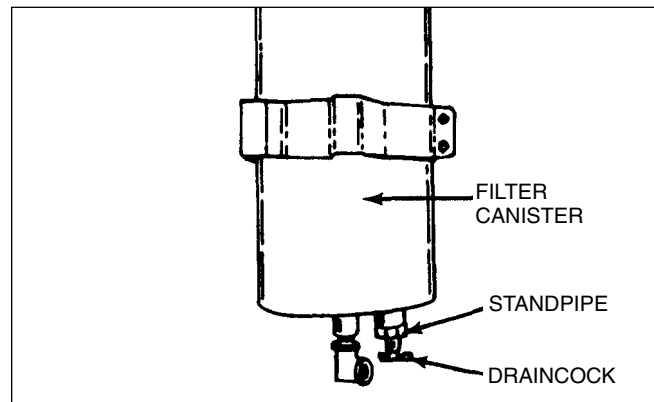

FIGURE 4-3, Draincock
5. Open Draincock and drain all of coolant from Filter Canister (see Figure 4-3).
9. Remove Standpipe from Filter Canister (see Figures 4-3 & 4-4).